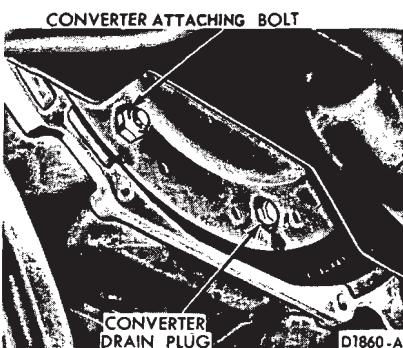

FIG. 26—Converter Drain Plug Location
2. Remove the converter drain plug (Fig. 26). Drain the converter and reinstall the plug.